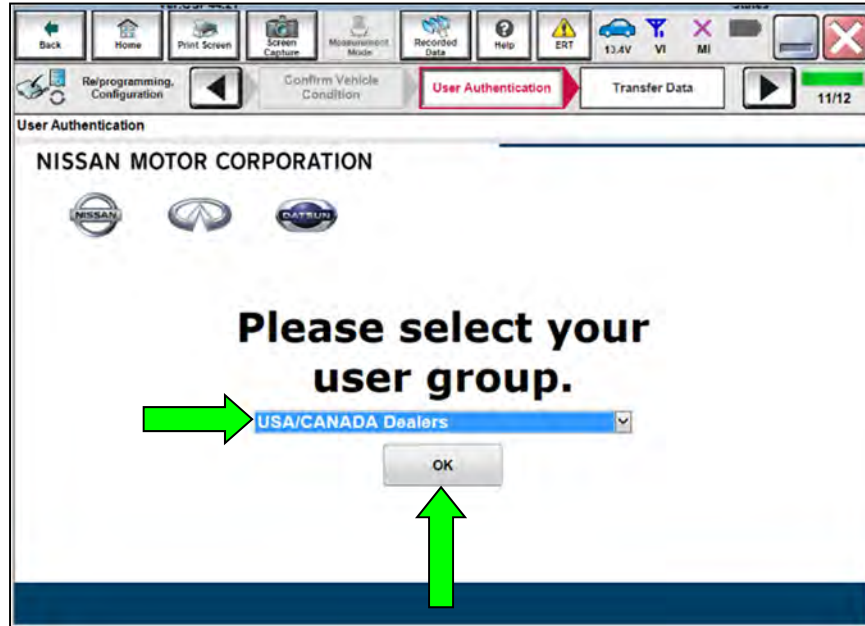

Figure 16
- Figure 16 may not display if the CONSULT PC has remained ON since the last reprogramming.